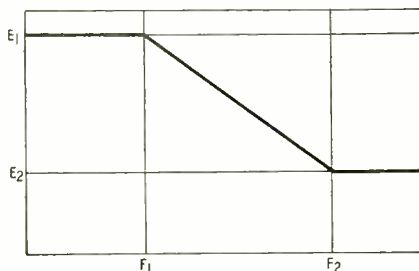

Fig. 2—Ideal equalizer characteristic.
approach to equalizer design is quite unnecessary if you understand and use the right methods. An equalizer has to provide a definite boost (or drop) in the response of a circuit between two specified frequencies. The *amount* of boost or drop may be expressed in decibels, or as a voltage ratio (db units are generally used in audio work). Since the two limit frequencies—called “turnover points”—are usually fairly far apart (at least in standard recording practice) an ideal equalizer would have the characteristics shown in Fig. 2. The response of the circuit (E_1) is perfectly flat up to the lower turnover point (F_1); then it drops *uniformly* to the desired level (E_2) at the high-end turnover frequency (F_2); then flattens out again.
1. It is assumed that they produce ideal steps with a slope of 6 db per octave (like Fig. 2), and that the turnover frequencies are exactly at the opposite ends of the step. The actual slopes are invariably less than 6 db, and the turnover points are never exactly at the ends.